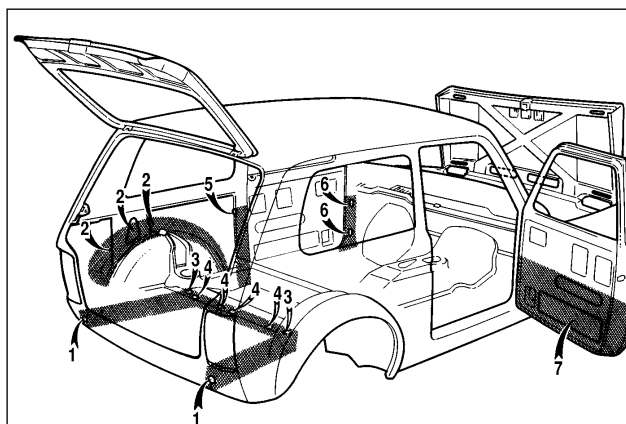
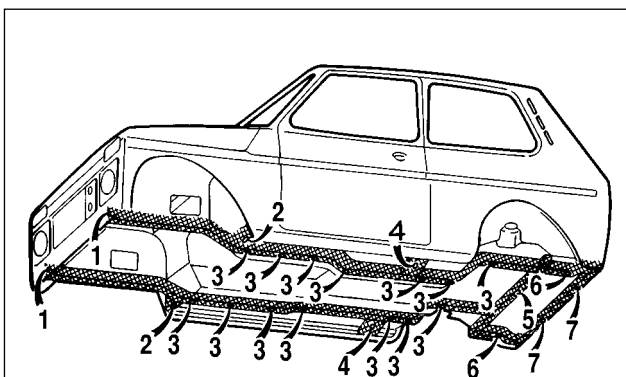

Fig.8-7. Rear view of the body. Inner cavities of:
Fig.8-8. Underneath view of the body. Inner cavities of:
- drive the vehicle into a corrosion treatment booth and position it on a lift; spray the relevant rust inhibitor onto the areas shown in Fig.8-6, Fig.8-7 and Fig.8-8;